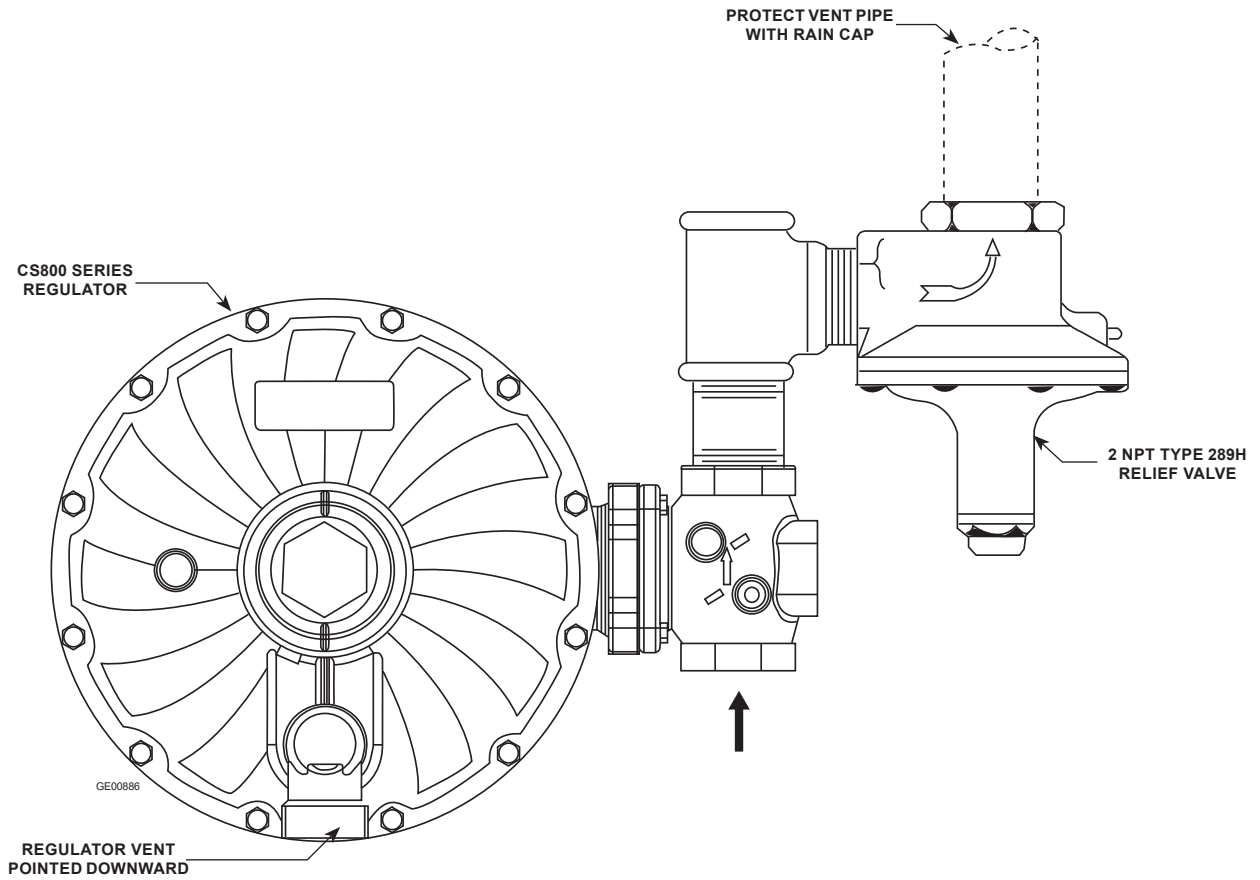

Figure 8. CS800 Series Regulator Installed with the Vent Pointed Downward and with a Type 289H Relief Valve for High Capacity Relief
All vents should be kept open to permit free flow of gas to the atmosphere. Protect openings against entrance of rain, snow, insects or any other foreign material that may plug the vent or vent line. For outdoor installations, point the spring case vent downward to allow condensate to drain (see Figure 8). This minimizes the possibility of freezing and of water or other foreign materials entering the vent and interfering with proper operation.
- **Install the regulator with the vent pointed vertically down, see Figure 8.** If the vent cannot be installed in a vertically down position, the regulator must be installed under a separate protective cover. Installing the regulator
If the regulator is used in conjunction with a Type 289H relief valve, it should be installed as shown in Figure 8. The outside end of the vent line should be protected with a rainproof assembly. The Type 289H should be set 10 in. w.c. / 25 mbar higher than the outlet pressure setting of the regulator, up to 30 in. w.c. / 75 mbar outlet pressure. For pressure greater than this, set the Type 289H 0.75 psi / 52 mbar higher than the outlet pressure setting of the regulator. See the 289 Series Instruction Manual (D100280X012) for more information.
1. To properly reset the Type VSX8 Slam-shut after it has been tripped to the closed position, insert a flat-head screwdriver into the position shown in Figure 8 on the backside of the reset button (refer to Type VSX8 Instruction Manual, key 30, Figure 8).
2. Slowly rotate the screwdriver to gradually pull the reset button (refer to Type VSX8 Instruction Manual, key 30) away from the Type VSX8 device. This slow movement allows for a slow bleed of the pressure across the Type VSX8 Slam-shut's disk and seat area. The operator should be able to hear the pressure bleeding through the system.
3. When the pressure has equalized and the air bleeding sound has dissipated, completely pull the reset button (refer to Type VSX8 Instruction Manual, key 30) away from the Type VSX8 Slam-shut device by hand until the internal shut-off mechanism has been re-latched.
4. Once the operator feels the click of the re-latch occurring, completely push the reset button (refer to Type VSX8 Instruction Manual, key 30) back into its original position.